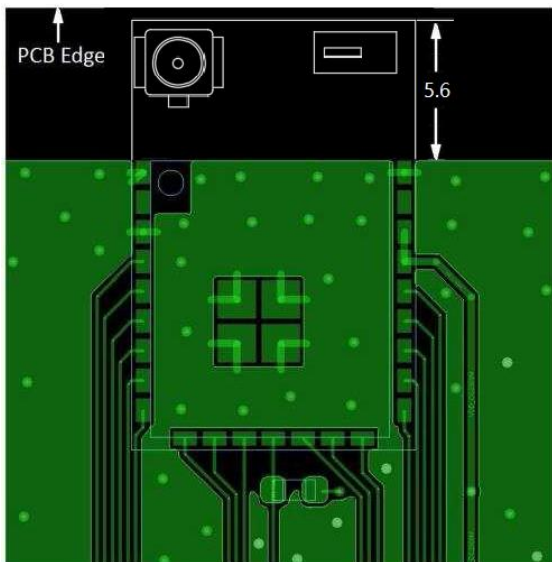

Figure 5-1. Top Layer
- Leaving 5.6 mm copper clearance on all PCB layers underneath the antenna area, as shown in Figure 5-1 and Figure 5-2.